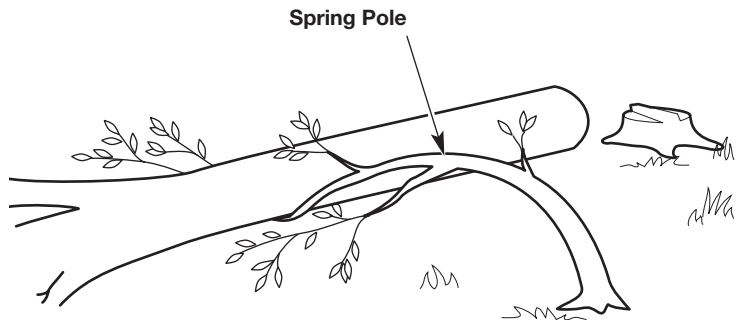

Fig. 17
**WARNING:** Stay clear of spring poles when operating the unit. Spring poles are branches, logs, roots or saplings that are bent under tension by other wood (Fig. 17). When the tension is released, spring poles can strike the operator, causing serious injury and potentially knocking the chain saw into the operator's body. Use extreme caution when cutting spring poles or when releasing the cause of tension.